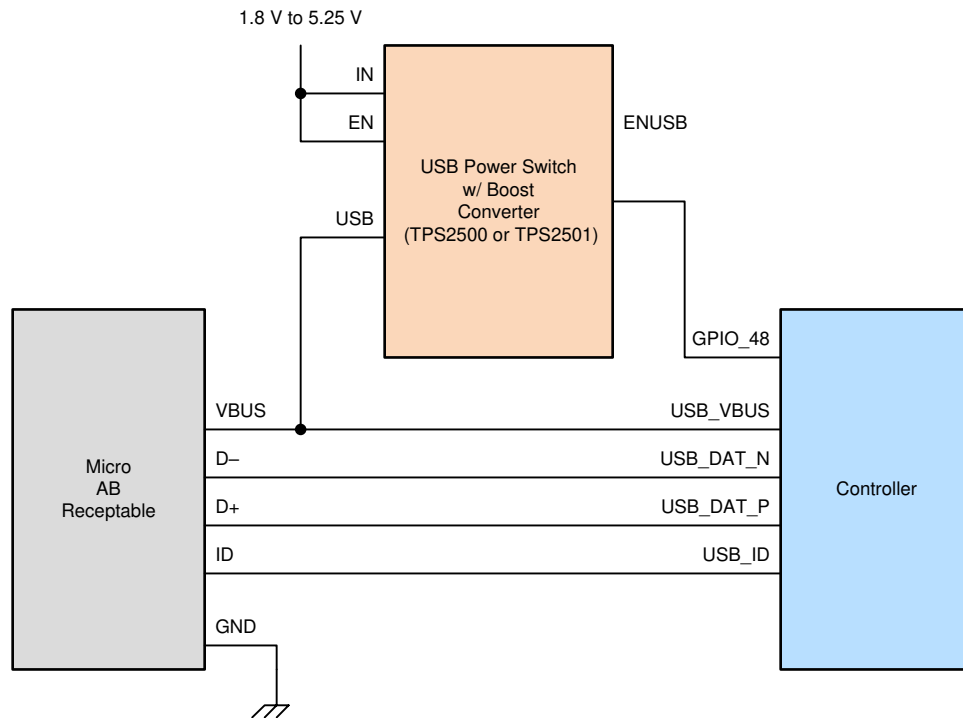

Figure 6-3. External USB Switch Example for DLPC6540 Controller as USB OTG Master
- (1) Referenced to VAD33_USB (I/O type 11)
- (2) When used as a master as part of USB OTG, the DLPC6540 requires an external USB switch to provide the USB 5-V power. The example shown in Figure 6-3 uses a TI TPS2500/2501 device. The example figure does not describe the required ancillary components (such as resistors and capacitors). For this information, refer to the USB switch logic data sheet for the selected device. The external USB switch is not required for product configurations that support USB slave mode only.